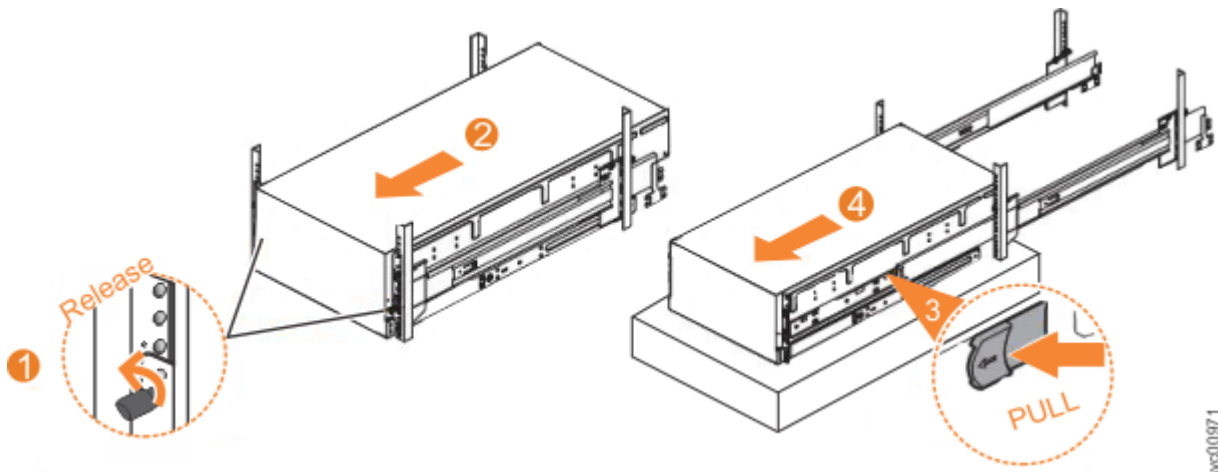

Figure 124. Removing the 5U expansion enclosure from the rack
1. Loosen the locking thumb screws (1) on the front of the enclosure, as shown in Figure 124 on page 193.
2. Carefully slide the enclosure forward out of the rack (2), as shown in Figure 124 on page 193.
3. Locate the left and right blue release tabs near the front of the enclosure. Pull both release tabs forward to unlock the drawer mechanism (3 in Figure 124 on page 193).
4. Slide the enclosure and inner rail member out of the rack (4 in Figure 124 on page 193).